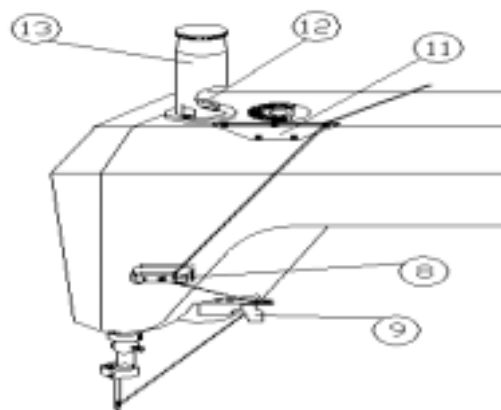
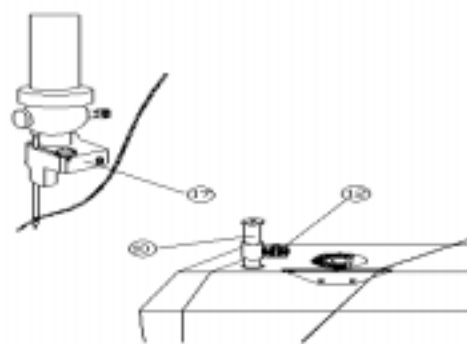

FIG. 2
FIG. 3
- Mount the machine needle, and make its groove face to the operator. Mount the eye-cover tongue (18), and make the tip of the tongue below the groove of the needle about 0.8-1.2mm. FIG. 2.
- Hold the end of the thread by hand and make it through the thread-braking tension unit and then the thread cutter as shown in FIG. 3. Press the pedal slightly backward with the heel, the tongue will lift and the groove of the needle will open. Put the thread in the groove of the needle. FIG. 2.
- The thread should emerge from the tension spring (8) and pass through the cutter (9) situated under the head, as shown in FIG. 2. Pull it to the left to a maximum of 90 cm. Each threading should never exceed this length.
- Threading with manual movement machine without tongue-lifting mechanism. Bring the machine into the threading position by pressing down on the pedal (6) with the heel. In this position, use the right hand to raise the adjustable cap (10) so as to free the eye of the needle from the tongue. Introduce the thread into the groove will close the groove in the eye of the needle. FIG. 3.
The pressure of the presser foot can be adjusted to suit the fabric. This pressure should be adjusted so as to ensure the uniform and safe transport of the fabric without damage. Turning the regulator clockwise increases the pressure, while turning it anti-clockwise reduces it. FIG. 2.